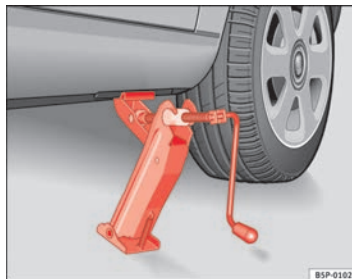

Fig. 158 Fitting the jack
- Align the jack so that the arm of the jack fits around the rib under the door sill and the movable base plate of the jack is flat on the ground ⇒ fig. 158.